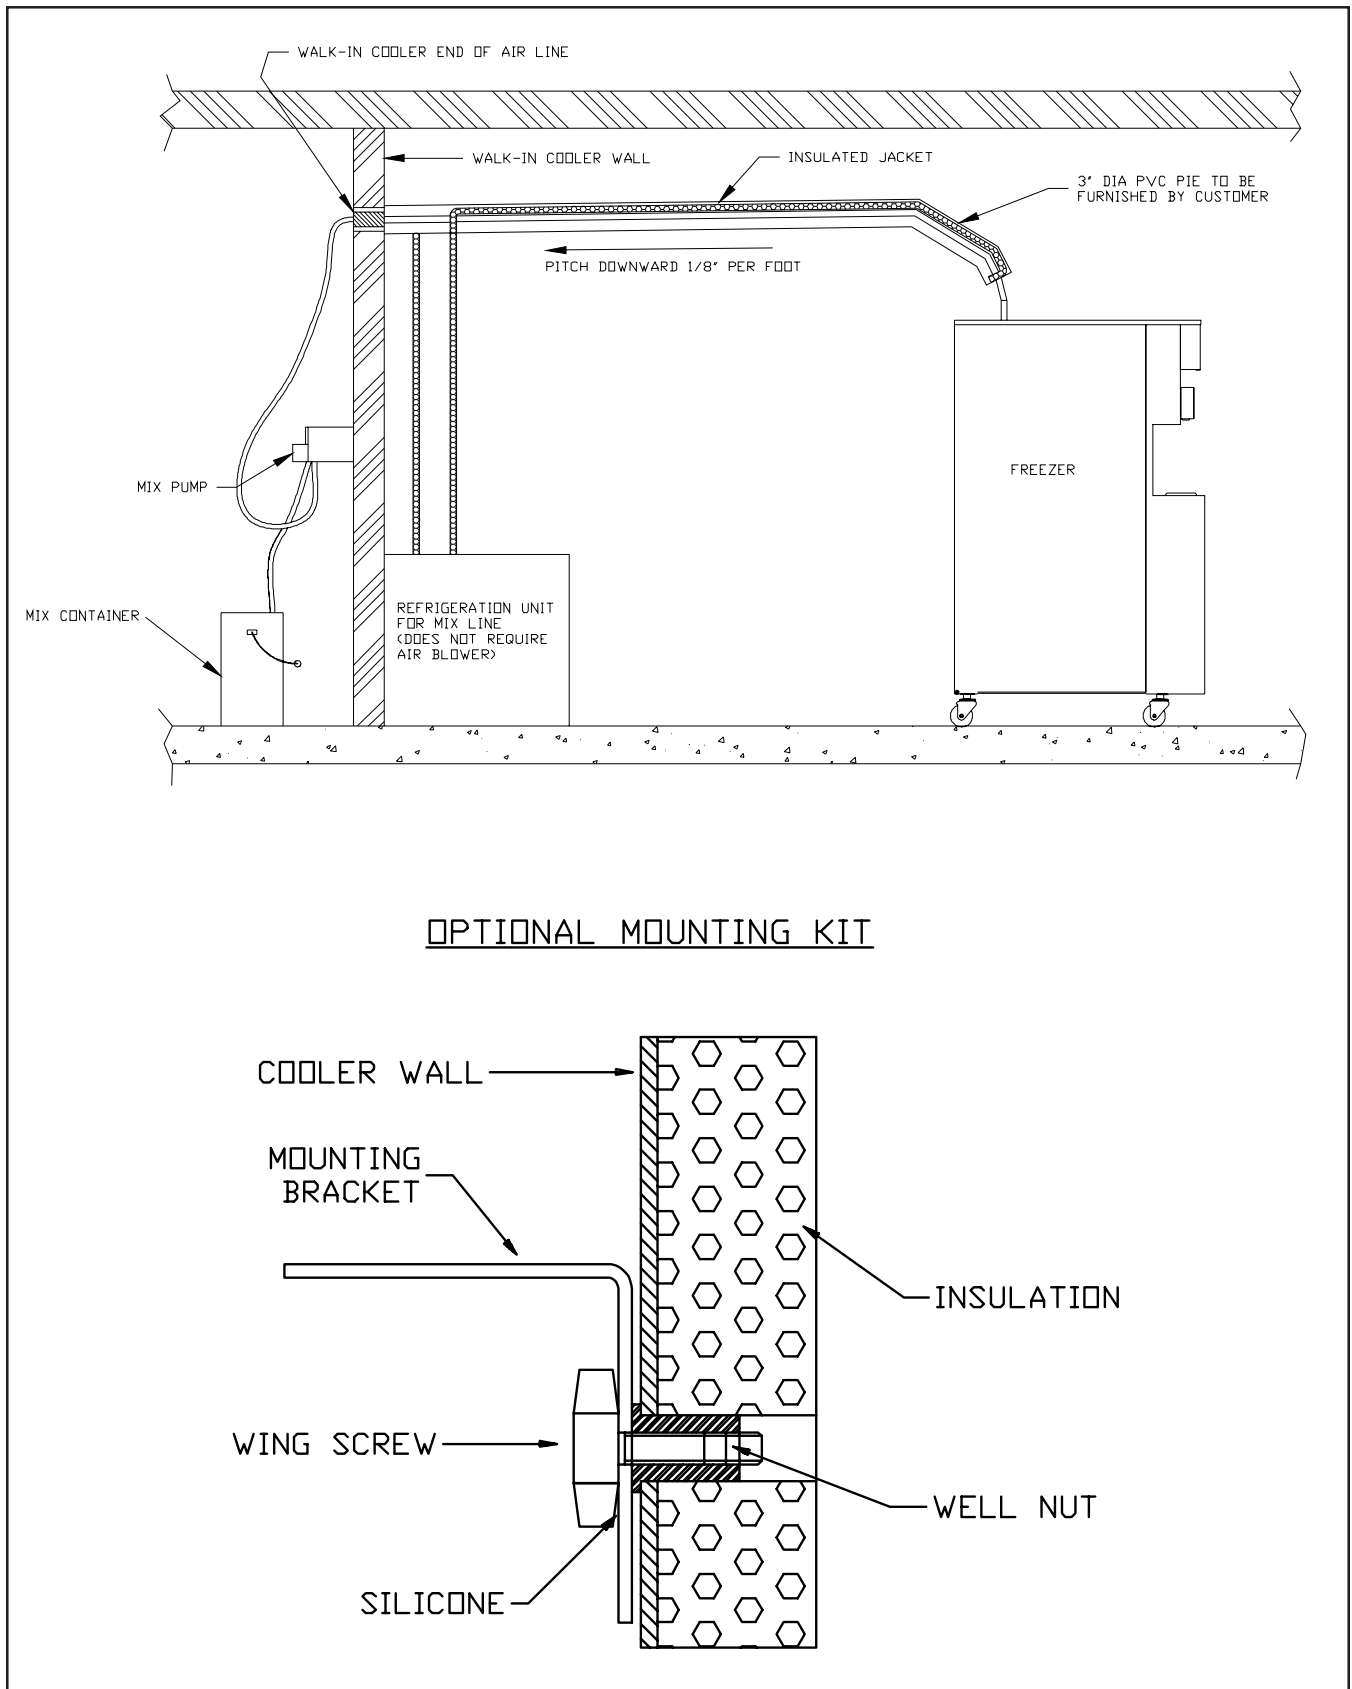

Figure 6
- A. Follow the steps below to install the mix pump in an upright position on the wall (allow clearance for a mix container under pump). See Fig.6.
1. Mount by locating four (4) hole centers on cooler wall using mounting bracket as template.
- A. This unit (remote pump) must be installed with a "NSF" listed refrigerated mix transfer line. The mix transfer line must be pitched to the cooler with no sags or low points, to allow complete drainage.(Fig.6).